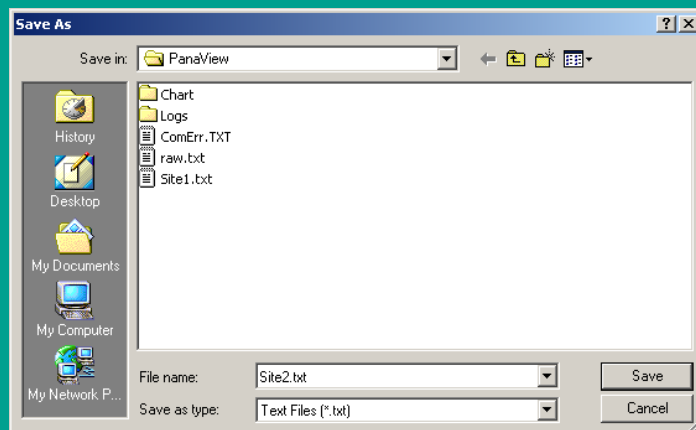

Figure 30: Save as window
To save the raw signal, click *save*. A window opens similar to figure 30. Enter the desired name, and click *save* to save the signal as a text file.
2. Click *save site to PC*. A window opens similar to figure 30.